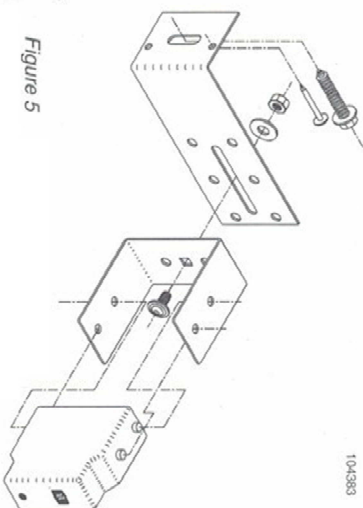

Figure 5
- Place the transmitter and receiver units into their respective "U" brackets. See Figure 5.